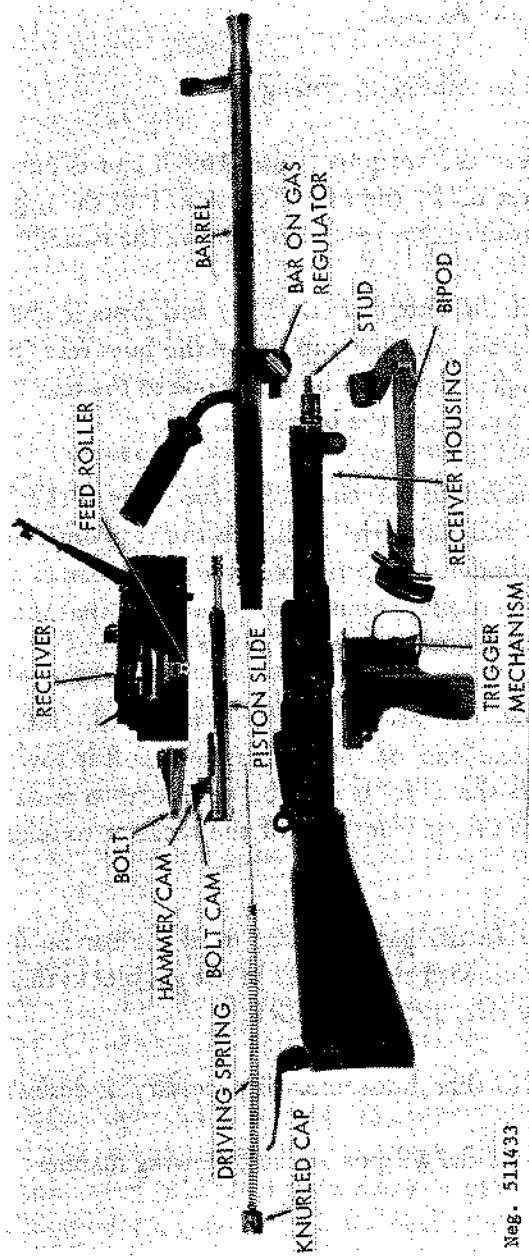

Figure 134. Vz52 field stripped.
(3) Reach into the channel in the front of the receiver housing (fig 134) and move the piston to the rear until it is just clear of the gas cylinder. Grasp the receiver at the barrel nut and pull it up out of the receiver housing. Make certain that the piston and bolt do not accidentally drop out of the receiver.
(4) Slide the piston and bolt rearward, out of the receiver. Lift the rear end of the bolt up and pull it toward the rear; then lift it off the slide. It may be necessary to press up the serrated catch at the right front end of the receiver to release the slide.
e. When the sear releases the slide, the compressed driving spring forces the slide, piston, and bolt forward. The feed rib on the bolt strips a cartridge from the magazine or belt and drives it into the chamber. The cartridge rim seats in the fixed extractor at the bottom of the bolt face; the movable extractor then keeps the round in position. When the cartridge is fully seated in the chamber, the bolt stops its forward motion. The slide continues to move forward, and the combined hammer and cam (fig 134) force the rear of the bolt up into its locked position. In the last forward travel of the slide, the hammer strikes the firing pin to fire the cartridge.
g. The belt is fed into the gun by a laterally reciprocating belt-feed lever. This lever is mounted vertically on the receiver, with a pivot halfway along its length. A roller (fig 134) on the bottom of the lever rides along a cam on the piston slide, and, as the slide moves rearward, this cam forces the upper end of the lever inward. This movement feeds the belted cartridge into the gun against a pair of positioning stops on the feed cover. As the slide moves forward, a second cam forces the feed lever out, and, as the slide moves, a spring-loaded pawl on its upper end is